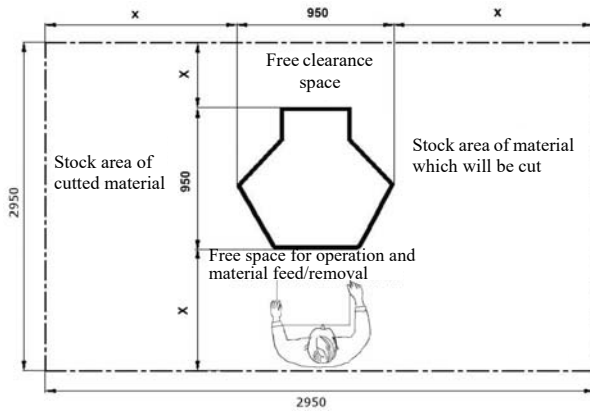

Fig. 6: Installation plan
Step 1: Make sure that the space around the machine is sufficient for the application (Fig. 6). There must be sufficient space for the operator and material transport.
Ensure that there is an area around the machine in all four directions at a distance of $X = 1000$ mm from the working area (Fig. 6).